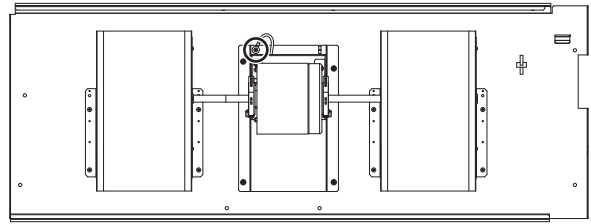

Fig.4
- (1) Remove the earth lead of the motor from the motor base. (Fig. 4)